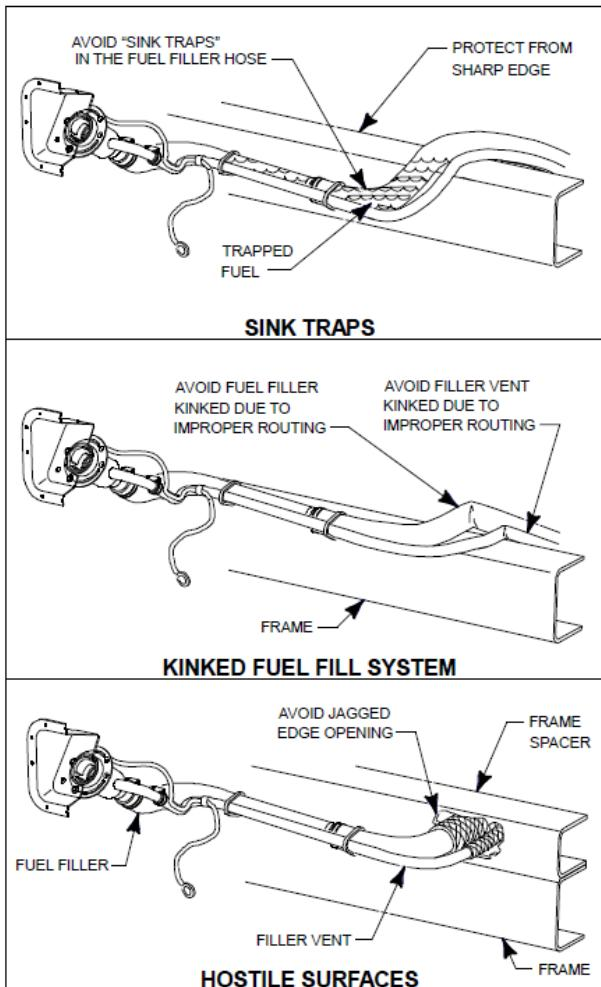

Figure 5 – Fuel Fill System Installation
- When installing accessories or equipment, avoid exposure of fuel and vapor hoses to surfaces with sharp edges (see “Hostile Surfaces”, Figure 5) or high temperature surfaces (near hot exhaust or coolant). Also avoid installations which result in the exposure of these lines to road debris or undercoating.
- Keep the flow of fuel continuously downward from the inlet of the fuel filler pipe all the way to the tank. See “Sink Traps” in Figure 5. Fuel trapped in low spots can be expelled when the cap is removed, even if the tank is nearly empty.
- Avoid pinches or kinks as they may restrict fuel filling and venting. Hose length may require adjusting depending on second unit body width. See “Kinked Fuel Fill System”, Figure 5
- Do not place adjacent hardware such that it may cut or otherwise damage the filler neck or vent hoses and cause fuel or vapor leakage. See Hostile Surfaces, Figure 5.